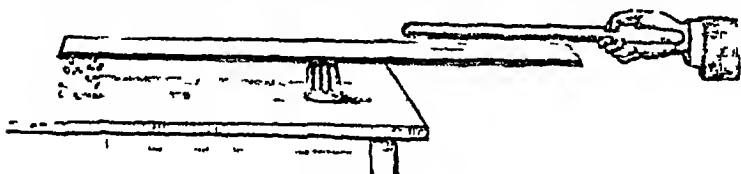

FIG. 171
**Induction.**—Charge the electroscope with negative electrification. Insulate a lath by placing it upon a dry tumbler (fig. 171),